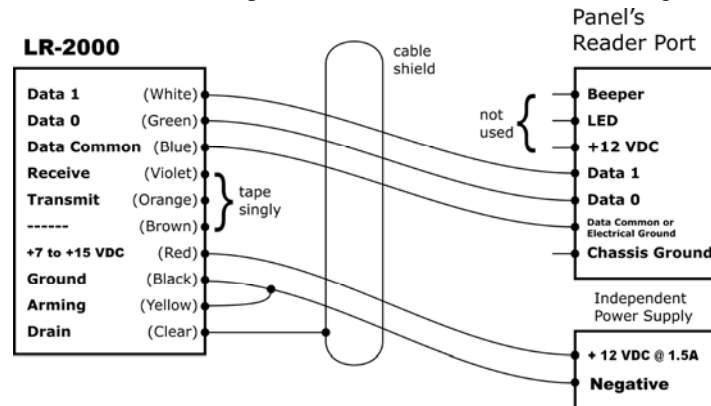

Figure 3. Wiring the Complete System
3. Cut off connectors from the reader's cable. Connect the wires to the cable(s) that run to the panel and power supply. See Fig.3.
1. Check the cable(s) to be certain that they meet AWID's specifications. Study Figure 3 carefully.